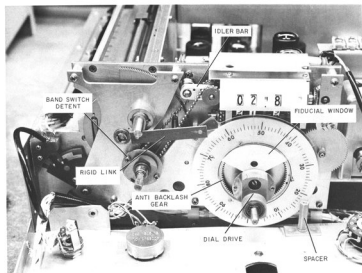
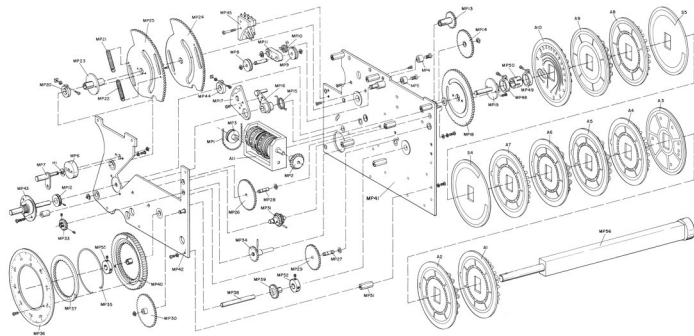

Figure 4-6. Band Indicator Bead Chain Stringing
Figure 4-7. Mechanical Band and Tuning Linkage,
Refer to figures 4-6 and 4-7. Figure 4-6 shows the MEGACYCLES dial drive chain properly strung over MEGACYCLES band-switch drive sprocket, idlers, and counter dial drive sprocket. Figure 4-7 shows an exploded view of the complete mechanical band-switching and tuning mechanism.
their shafts. Remove the two small screws on either side of the tuning shaft. Loosen the coupling on the EMISSION switch shaft behind the detent plate and the first wafer. Remove the screw which secures the front gear plate to the panel, leaving the spacer fastened to the panel as shown in figure 4-6. At the front edge of each chassis side apron, remove the two screws which secure the front panel brackets to the side aprons. Remove the screw that secures the cable protecting rail to the front panel bottom bracket, and swing the rail aside. Move the panel out and down, taking care not to break any of the wiring between the back of the panel and the chassis. Remove zero set crank bar for easy access to the bead chain drive.
If it is necessary to remove and replace turret wafers, refer to figure 4-7, and proceed as follows:
h. If two or more of the turret wafers are replaced at the same time, make sure all wafers are placed in the turret in proper order. Refer to figure 4-7. If new or repaired wafers are replaced in the turret, realign according to instructions of paragraph 4.4.6, 4.4.7, or 4.4.9.